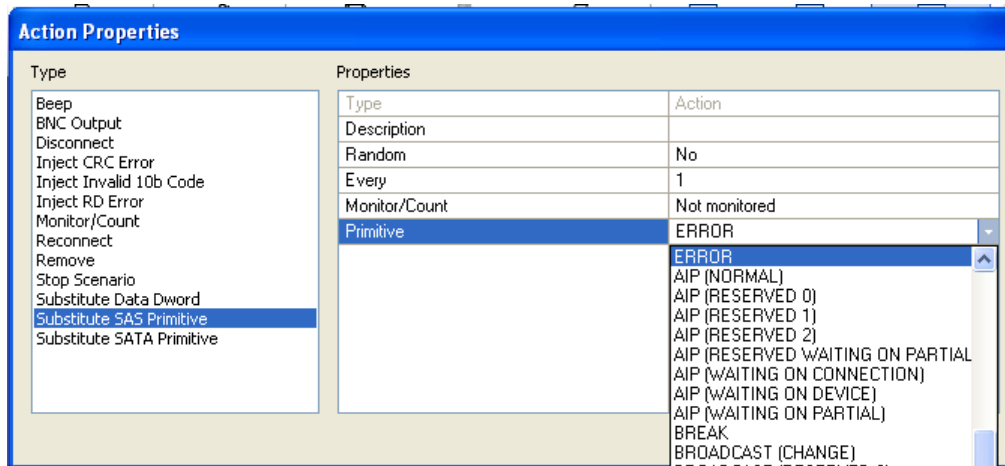

Figure 5.19 Example 3: Action Drop-Down List
- Step 8** The Action Properties dialog box appears (Figure 5.19). In the Type list on the left, choose **Substitute SAS Primitive** as the action you want when either RRDY Reserved 0 or RRDY Normal occurs.